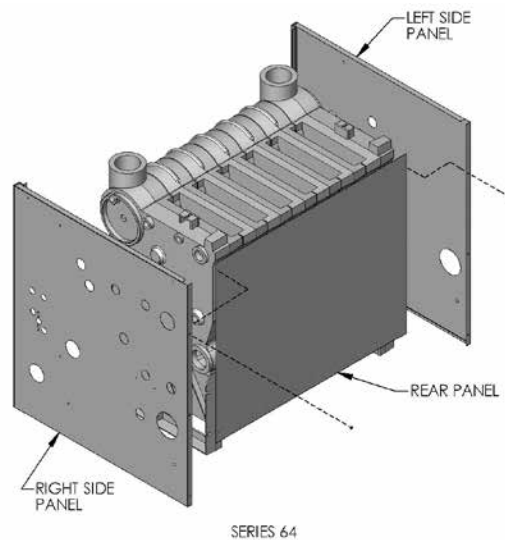

Figure 2.6: Jacket Assembly, Series 64™ Boilers
4. **Back Panel Jacket:** Position the back jacket panel inside the flange of the side jacket panels and attach it with six #10 x 1/2" sheet metal screws. See Figure 2.6.